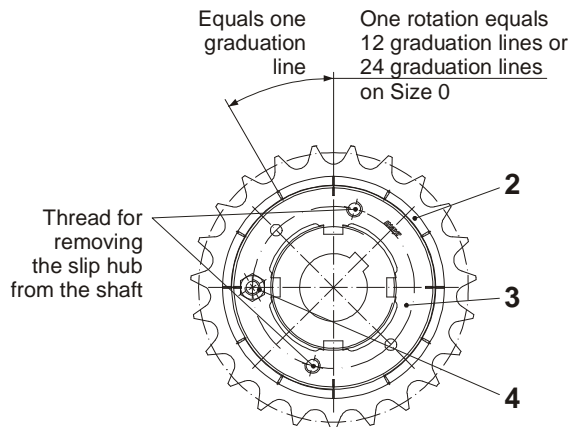

Fig. 20
There are 12 markings engraved on the thrust washer (2) facing side (Size 0: 24 markings), and 4 markings engraved on the adjusting nut (3) (Fig. 20). The adjusting nut (3) inc. lock washer (13) is pushed manually up to contact onto the cup springs (5). The 4 markings and the markings on the thrust washer (2) must match.
There are 12 markings engraved on the thrust washer (2) facing side and 4 markings engraved on the adjusting nut (3) (Fig. 20). The adjusting nut (3) inc. lock washer (13) is pushed manually up to contact onto the cup springs (5). The 4 markings and the markings on the thrust washer (2) must match. Continue to turn the adjusting nut (3) using a face wrench by the number of graduation lines which accords with the required slip torque. For the number of graduation lines that need to be adjusted dependent on the torque, please see Tables 5, 12 and 13.